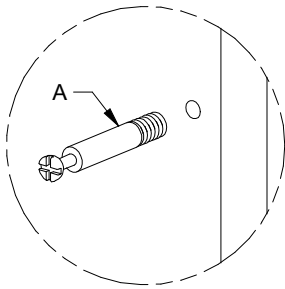

Figure 1
1. **Cam Bolt:** (Figure 1) Screw the cam bolt into the predrilled hole. Tighten until snug and the non-threaded portion of the bolt (A) touches the surface.